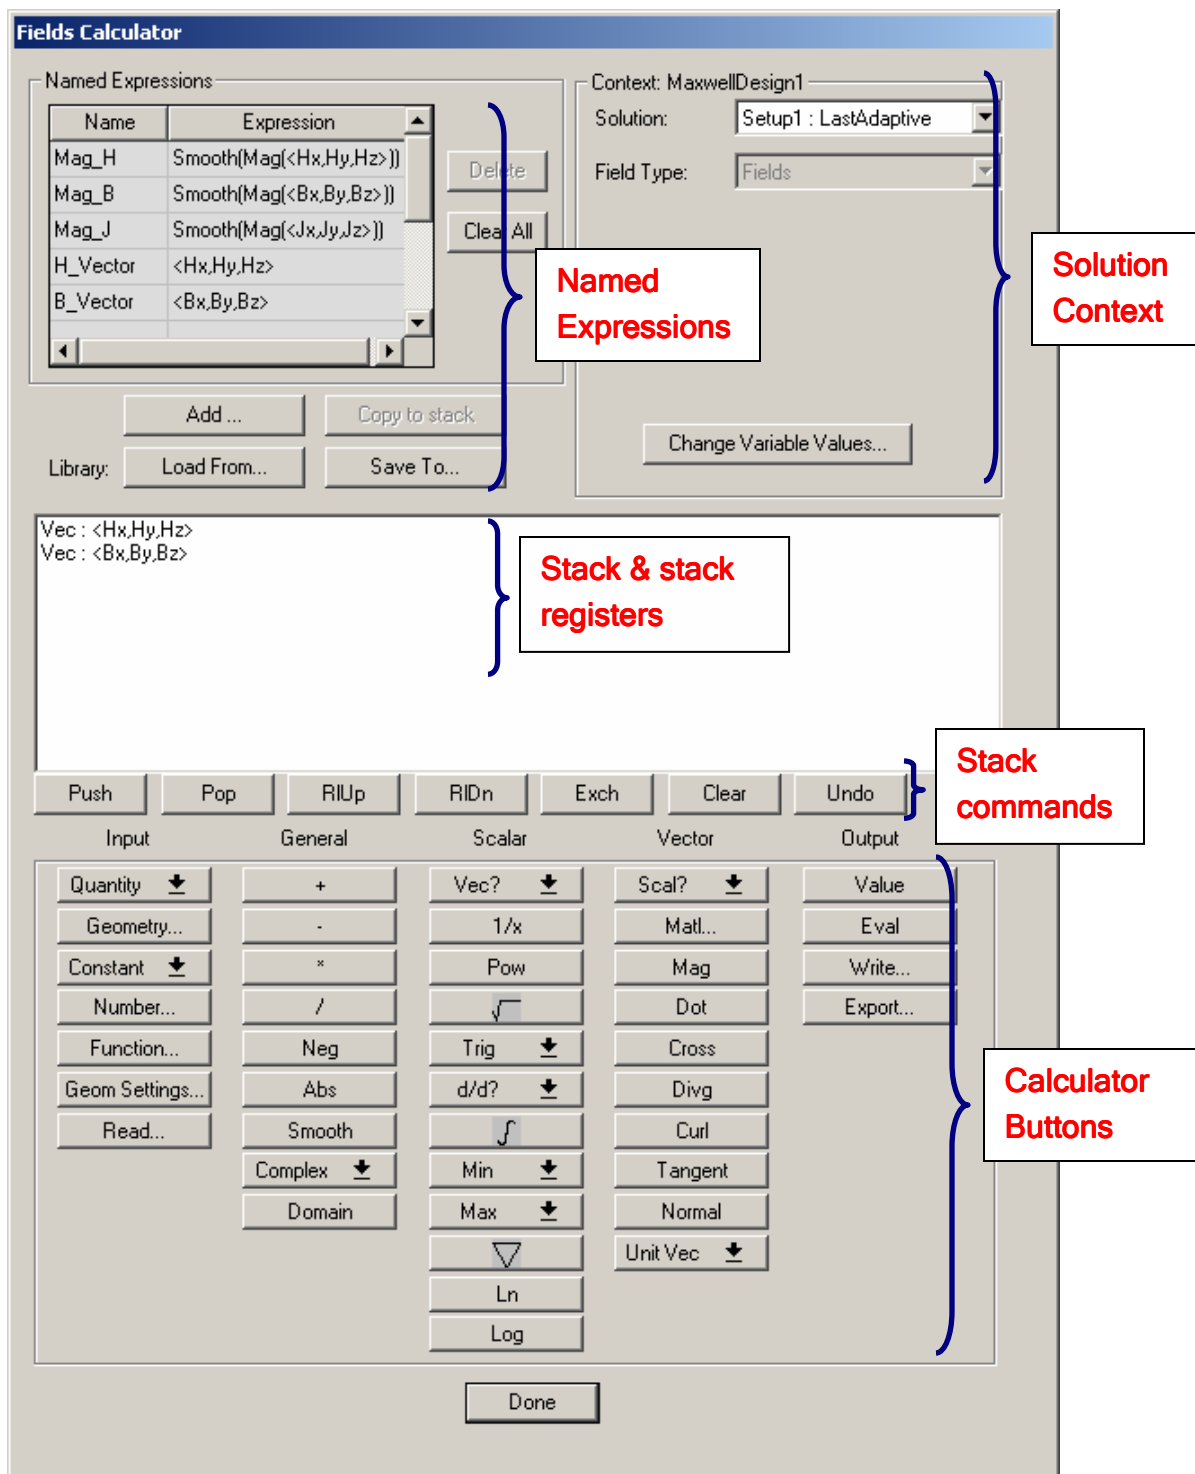

Fig. I1 Field Calculator Interface
-  The interface is shown in Fig. I1. It is structured such that it contains a stack which holds the quantity of interest in stack registers. A number of operations are intended to allow the user to manipulate the contents of the stack or change the order of quantities being hold in stack registers. The description of the functionality of the stack manipulation buttons (and of the corresponding stack commands) is presented below: